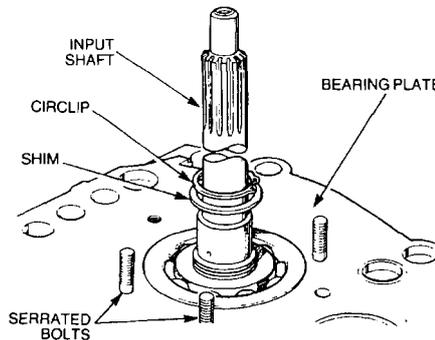

Figure 161 Removing the Input Shaft
- hh. Remove the circlip retaining the input shaft to the bearing (Figure 161). Remove the shim and, using a suitable press, remove the input shaft. Discard the needle roller bearing.